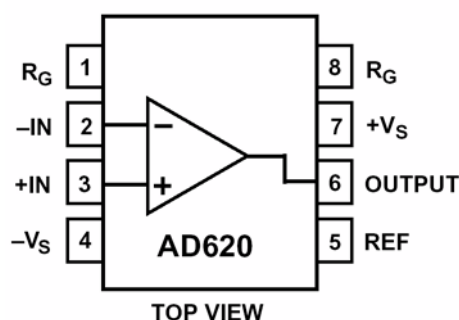
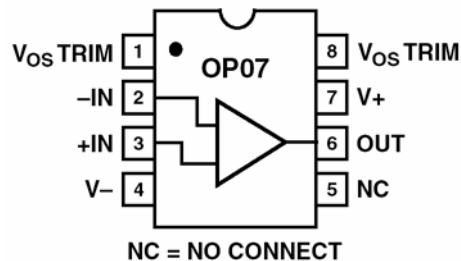

Figure 5-11. AD620 instrument amplifier pin connections
Figure 5-12. OP07 connections
2. Using the provided jumper wire, connect pin 4 of both OP07 chips and the AD620 chip to the -9 VDC terminals of your batteries (see Figure 5-11 and Figure 5-12 for an illustration of the IC chip pins).
Figure 5-11 provides an illustration of the AD620 instrument amplifier pins.
Next we must connect the output from the pre-amplification stage (AD620 instrument amplifier) to the high-pass filter stage. Figure 5-11 shows that the AD620 output is pin 6. Figure 5-12 shows that the OP07 chip, the core of the high-pass filter circuit, has two inputs:
Figure 5-12 provides an illustration of the OP07 op-amp pins. Notice op-amps have either a notch or small bubble on one end to help you identify the pins.